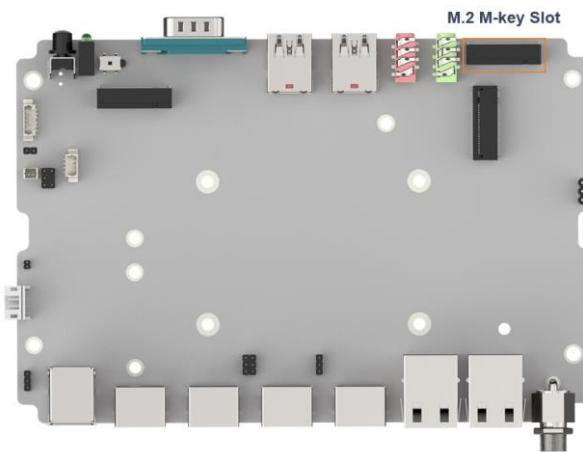

Figure 4-11: M.2 M-key Slot Location
- CN Location:** See **Figure 4-11**